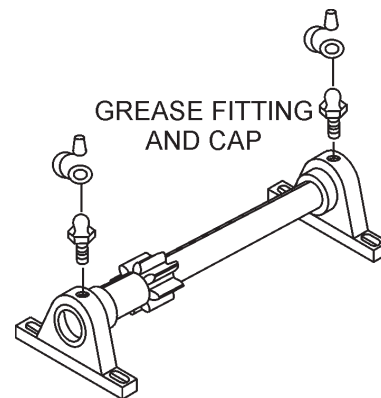

Figure 28. Grease Fittings (Countershaft)
- Fill the wheel hub (Figure 28) with grease to the inside diameter of the outer races and also fill the hub grease cap. Reassemble the hub and mount the wheel. Then tighten the adjusting nut, at the same time turn the wheel in both directions, until there is a slight bind to be sure all the bearing surfaces are in contact.